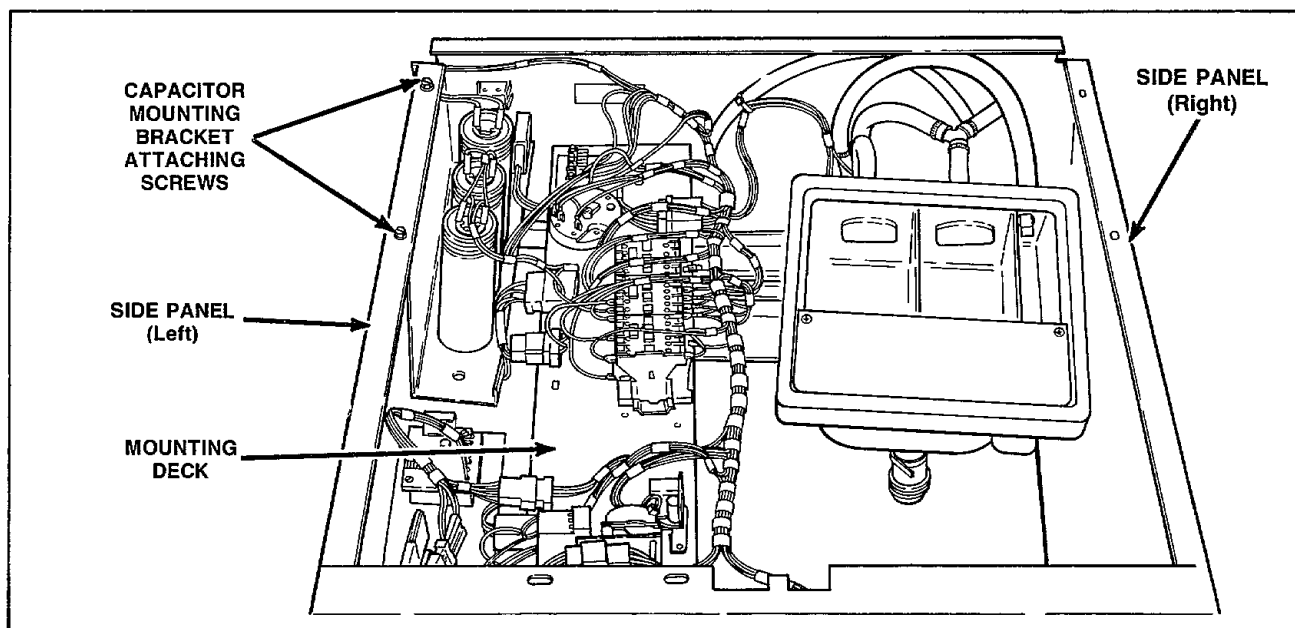

Figure 14
- j. LEFT SIDE PANEL - remove the two screws and washers holding the capacitor mounting bracket to the top flange of the side panel, *Figure 14*.